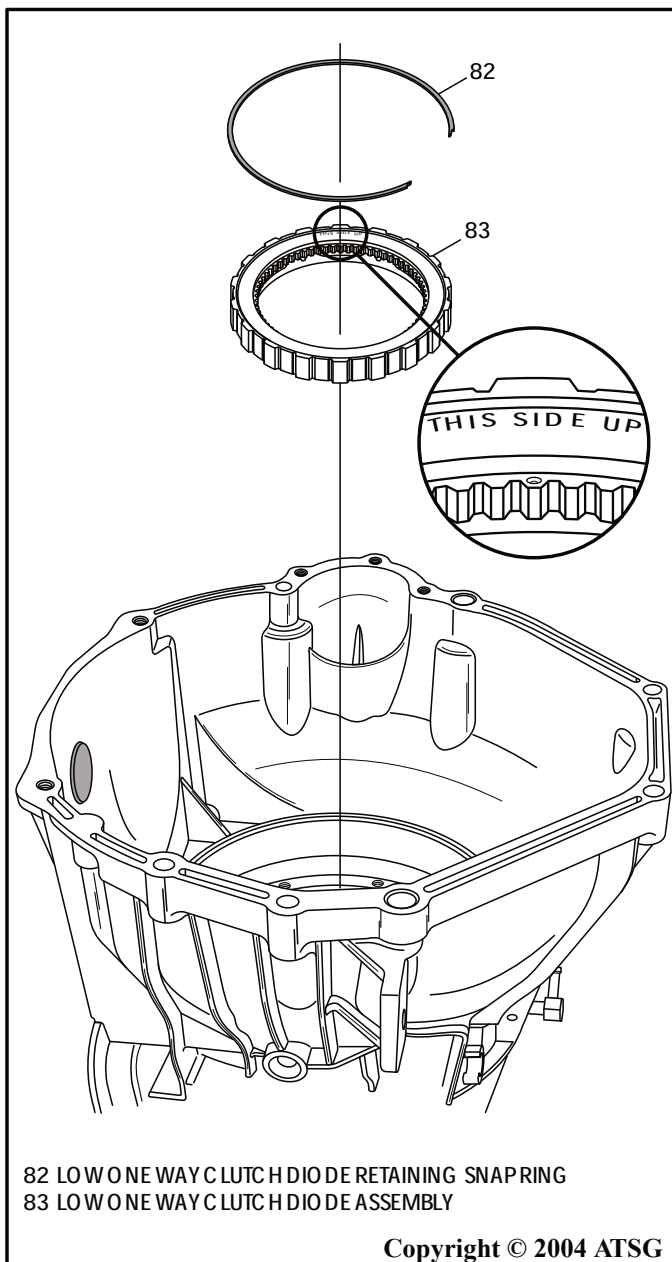

Figure 168
11. Install the low diode assembly, as shown in Figure 168, with the words "This Side Up" visible after installation.
12. Install the low OWC diode retaining snap ring, as shown in Figure 168.